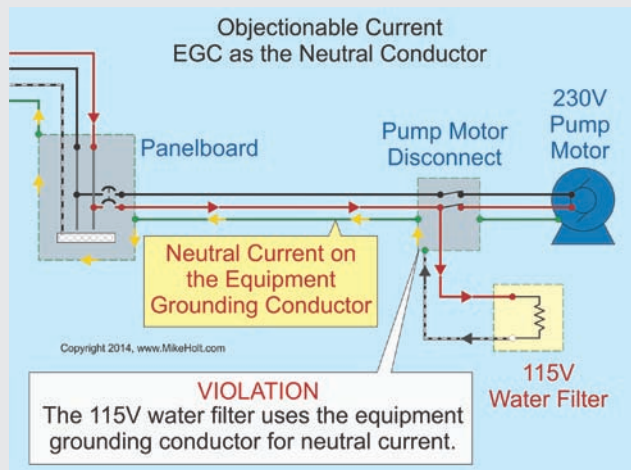

Figure 250-29
- A 115V water filter is wired to a 240V well-pump motor circuit, and the circuit equipment grounding conductor is used for neutral return current. Figure 250-29